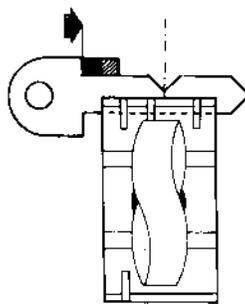

Fig. 2b
- 1) Place the setting blanks in the jaws see Fig 2b with the groove facing the cutter, as described in points (1) and (2) above.
- 4) Use handle (Z) to lower the carriage, which will automatically lock. Remove the adjusting blanks and activate switch (S) or, with the Rotary Switch version, select the first or second speed. The machine is now ready for operation; when the cutter carriage is raised the machine will automatically start.